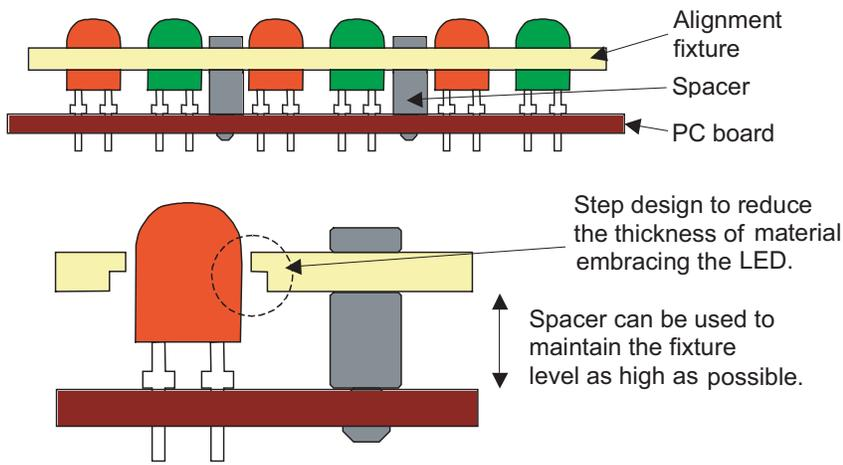

Figure 4. Illustration of the alignment fixture and spacers
- 4) The alignment fixture should be thin at the area embracing the LED and mounted as high as possible relative to the LED body. This will allow the fixture to be easily removed with minimal mechanical stress to the LED. A step design of the holes and spacers can be used to achieve this objective as illustrated in Figure 4.